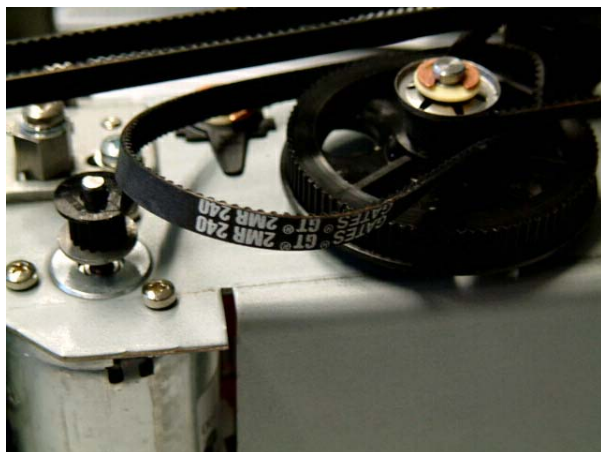

Fig.35
- Remove the drive belt from the motor (Fig.35)